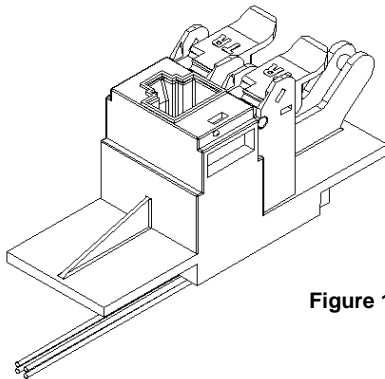

Figure 1
The tii 85 Sealed Subscriber Bridge with RJ45 (Bridge) maintains a constant direct connection between customer and central office service provider. The Bridge is equipped with a test jack and IDC terminations (see Figure 1). The test jack is provided as an access for test equipment to assure a signal is being received and transmitted properly.
- The receive and transmit pairs are connected to the Bridge. Customer has the option of installing a #10 Master lock around the customer lock hasp (see Figure 1).
- Lift both Bridge rockers to the open position as shown (see Figure 1).